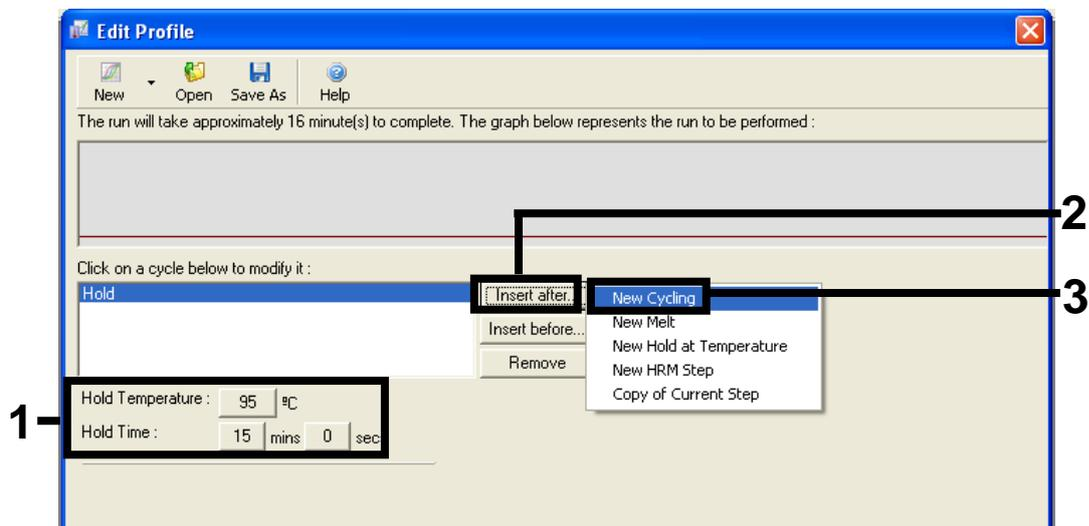

Figure 25. Initial incubation step at 95°C. (1 = "Hold Temperature and Hold Time" buttons, 2 = "Insert after" button, 3 = "New Cycling").
7. Change "Hold Temperature" to 95°C and "Hold Time" to 15 mins 0 secs. Click the "Insert After" button and then select New Cycling (Figure 25).